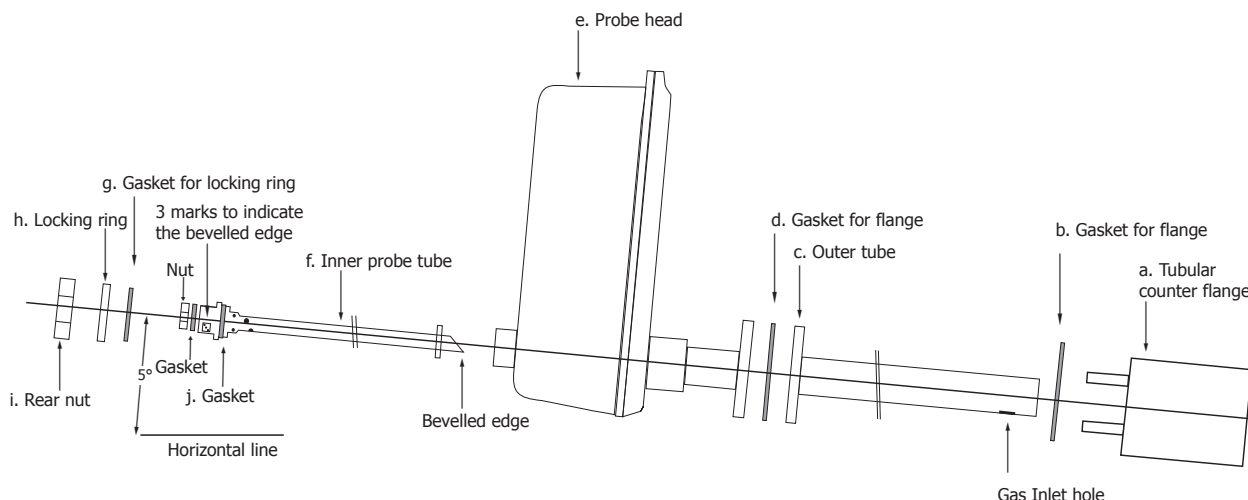
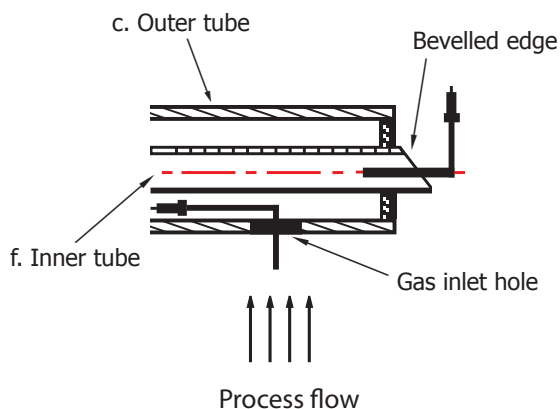

Figure 8 Probe Installation
Figure 12 *Inner Tube Orientation*
2. Place the outer probe (c) with the flange gasket (b) according to the drawing in *Figure 8*. The gas inlet hole should face the process flow.
4. Place the gasket onto the inner tube (f) and insert into the probe head (e) (see *Figure 8*). Make sure the bevelled edge of the inner tube tip faces the opposite direction to the gas inlet hole on the outer tube (c) as shown below. There are three marks on the other end of the inner tube to indicate the orientation of the bevelled edge (see *Figure 12*).
5. Place the locking ring (h) with the locking ring gasket (g), the rear nut (i) and the inner tube gasket (j) accordingly on the rear of the probe head. (See *Figure 8*)